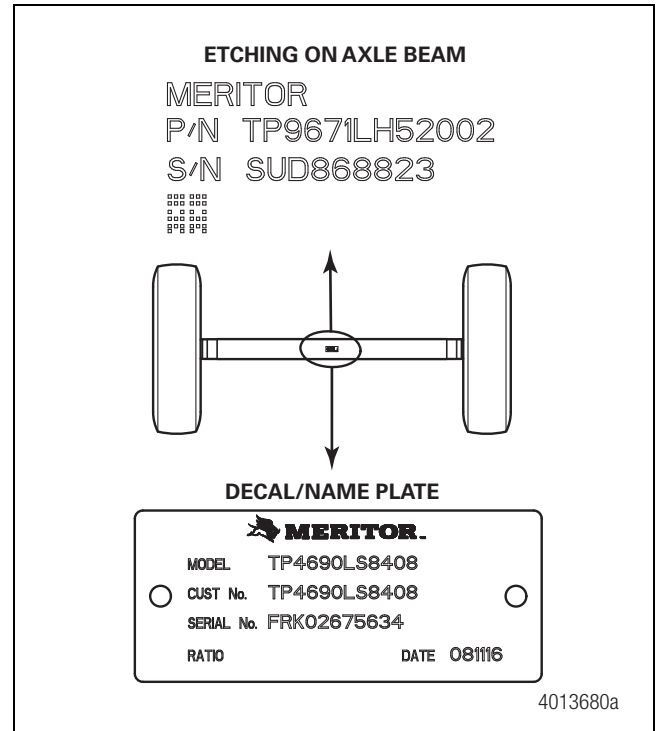

Figure 6.4
1. On axles built with a top-center hole, the ID tag or embossing is located toward the axle rear. Figure 6.4.